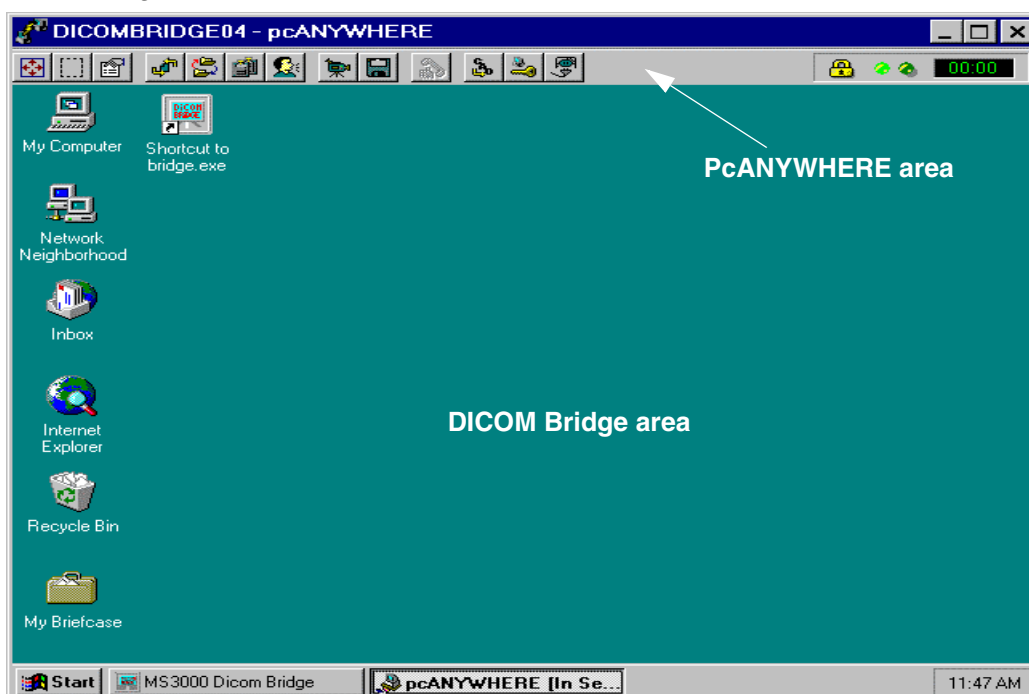

Fig. 28
- Fig. 28 shows a sample of the PCAnywhere window. The actual window may differ slightly from this example.